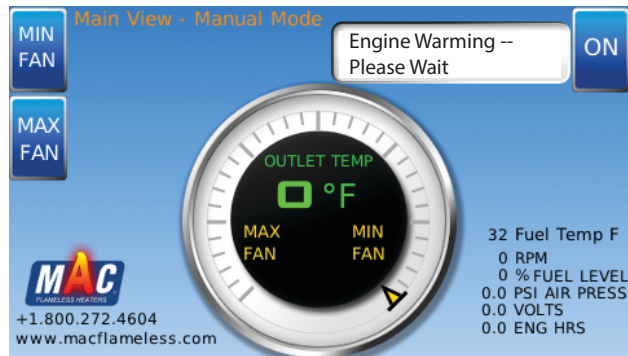

Figure 3-3. Engine Warming
4. The screen displays "Engine Warming -- Please Wait." (*Figure 3-3*).